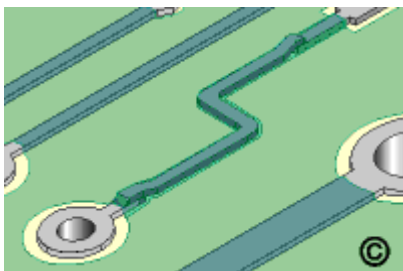

Fig. 3.16
5. Bond in place and overcoat with epoxy (Fig. 3.16)**